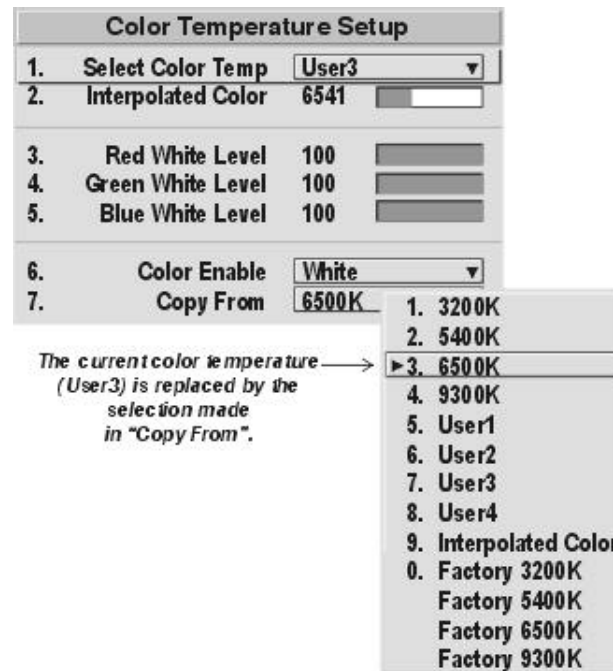

Figure 3.18. “Copy From”
**COPY FROM** – Use this option to replace the currently selected “User” color temperature setup with that of another. This function can be particularly useful for creating a starting point for a new “User” color or for accessing an unaltered factory default. It is disabled for all color temperatures *except* “User”. See Figure 3.18.